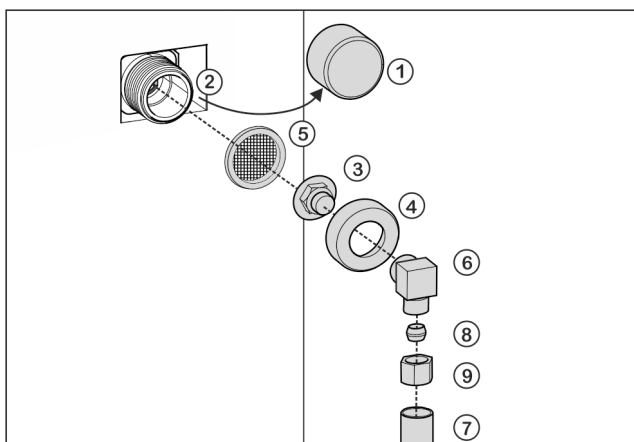

Fig. 49
- ▶ Remove cap Fig. 49 (1) from solenoid valve Fig. 49 (2).
- ▶ Insert coupler Fig. 49 (3) into union nut Fig. 49 (4).
- ▶ Insert the filter Fig. 49 (5) with the recess pointing down towards the coupler Fig. 49 (3).
- ▶ Screw the union nut Fig. 49 (4) by hand onto the thread of the solenoid valve Fig. 49 (2) until it is firmly in place.
- ▶ Screw on angle piece Fig. 49 (6).
- ▶ Connect the water pipe Fig. 49 (7) (e. g. 1/4" OD copper pipe) with the clamp ring Fig. 49 (8) and nut Fig. 49 (9) to the elbow connector Fig. 49 (6).
- ▶ If necessary: Fasten the water pipe Fig. 49 (7) to the housing with the guide clip.
- ▶ Put angle piece Fig. 49 (6) to one side.
- ▶ Connect the water pipe Fig. 49 (7) (e. g. 1/4" OD copper pipe) with the clamp ring Fig. 49 (8) and nut Fig. 49 (9) to the coupler Fig. 49 (3).